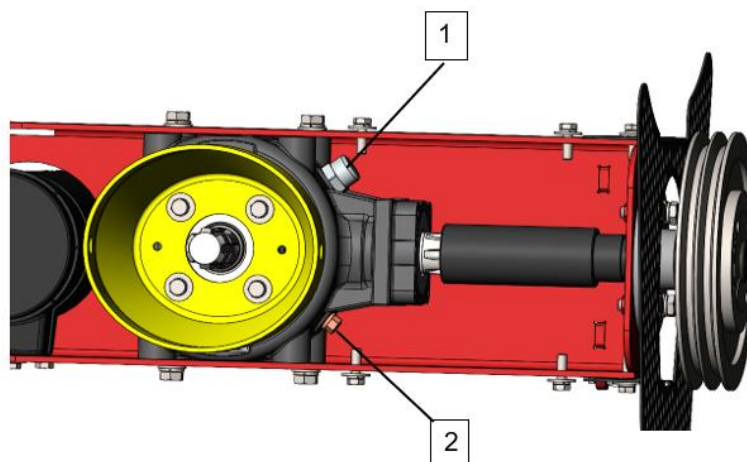

Fig. 14
4. Remove the breather (1), (Fig. 14).
5. Remove the oil by using a suction pump or place a collection container of sufficient capacity (more than 2.5 liters / 0.66 gallons) under the drain plug (2) and remove the plug.
7. Mount the plug (2).
8. Fill the gearbox using the amount stated in the schedule through the opening of the breather (1).
9. Mount the breather (1).